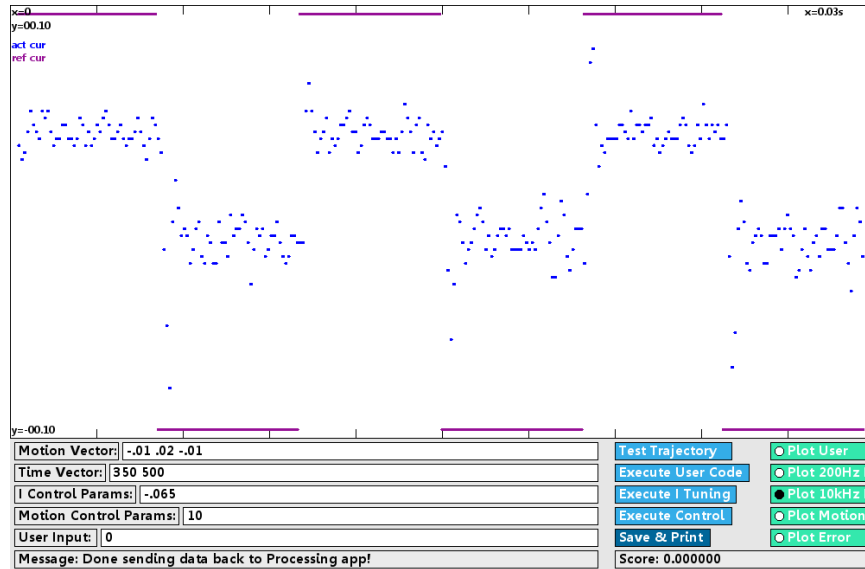

Figure 3: An example showing the performance of the current controller, tested with `Execute I Tuning`.
- `Execute I Tuning`. This sends over the GUI entries and performs a current control test. The commanded current is a 100 Hz square wave with values  $\pm 0.1$  Amps. You can tune your current controller parameters (feed-forward parameters or feedback gains) to achieve good current tracking. Your motor will not move appreciably due to the high frequency and short duration of the test. The reference and measured current, collected at 10 kHz for a few cycles, will be sent back for plotting. See Figure 3 as an example.